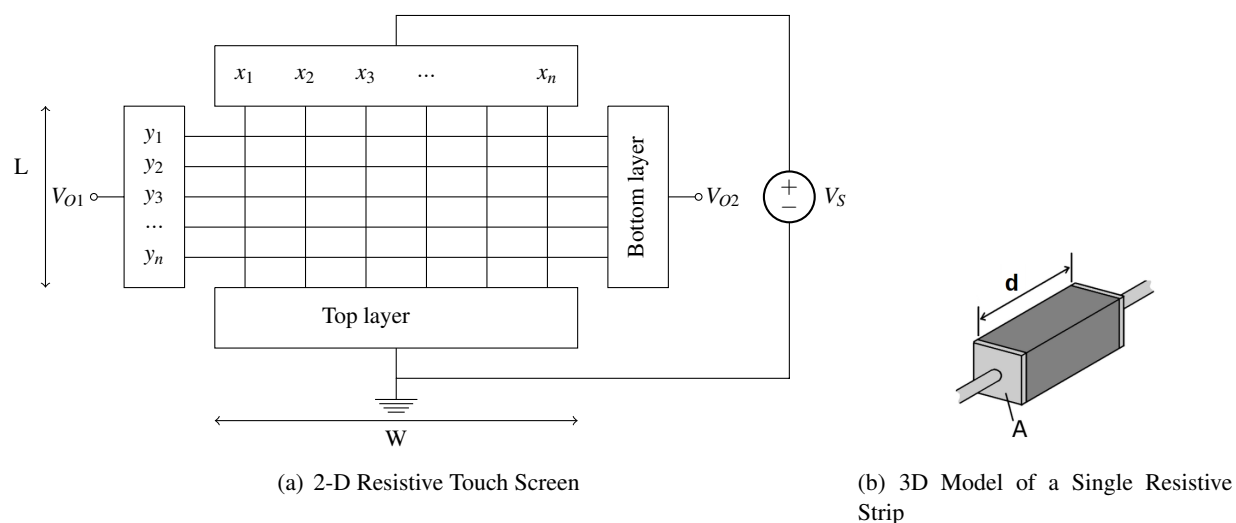

Figure 1: Model and components of a general touchscreen
In this question, we will be re-examining the 2-dimensional resistive touchscreen previously discussed in both lecture and lab. The general touch screen is shown in Figure 1 (a). The touchscreen has length L and width W and is composed of a rigid bottom layer and a flexible upper layer. The strips of a single layer are all connected by an ideal conducting plate on each side. The upper left corner is position $(1, 1)$.
Assume that all top layer resistive strips and bottom layer resistive strips are spaced apart equally. Also assume that all resistive strips are rectangular as shown by Figure 1 (b).
- Figure 1(b) shows a model for a single resistive strip. Find the equivalent resistance R_x for the vertical strips and R_y for the horizontal strips, as a function of the screen dimensions W and L , the respective resistivities, and the cross-sectional area A .
- Suppose a touch occurs at coordinates (i, j) in Figure 1(a). Find an expression for V_{O2} as a function of V_s , N , i , and j . The upper left corner is the coordinate $(1, 1)$ and the upper right coordinate is $(N, 1)$.